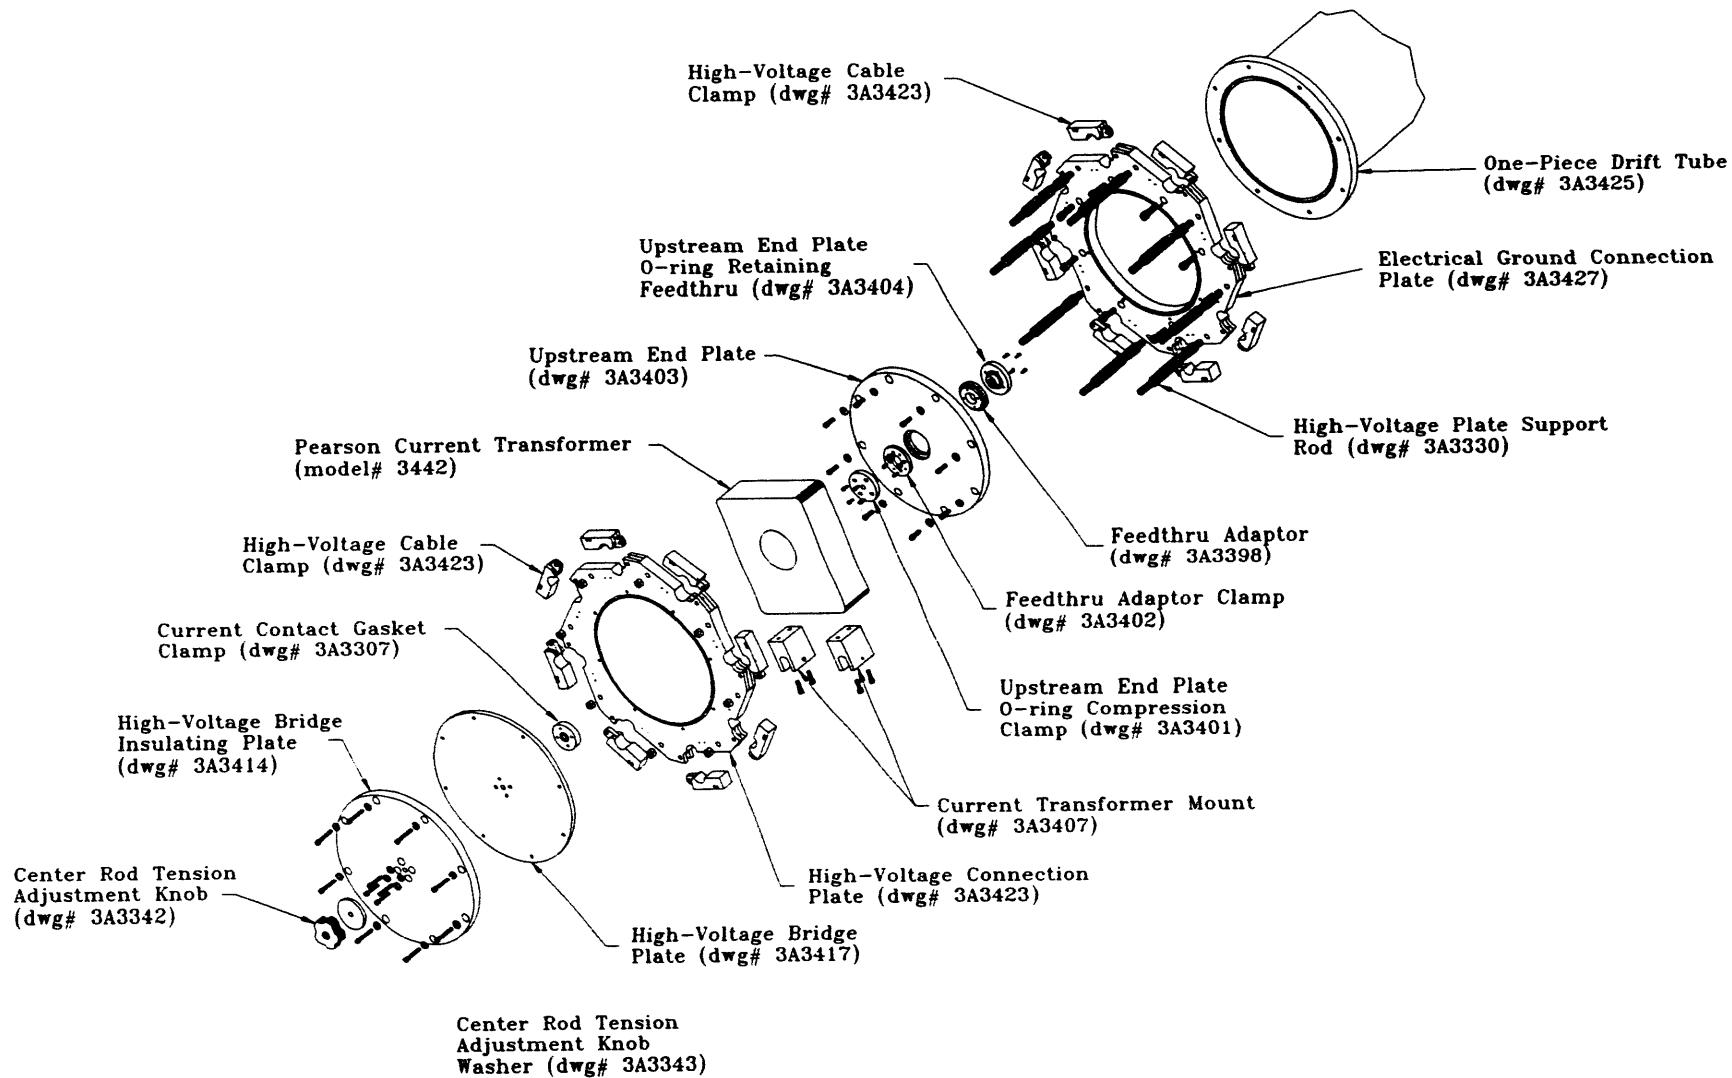

Figure 10: Exploded View of the High-Voltage End of the TPCS
185. Attach the Current Transformer Mounts, dwg# 3A3407, to the Pearson Current Transformer using four (4) each 1/20 x 1" steel socket head screws. Make sure the thru hole on the bottom of the mount faces inboard toward the current transformer output connector, refer to figure 10.